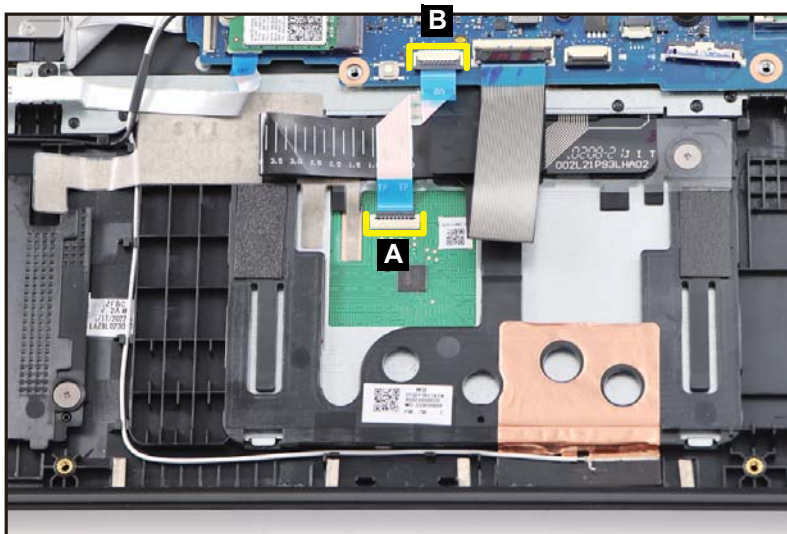

Figure 1-10. Touchpad Module Removal
1. Disconnect one end of the touchpad FFC from the touchpad module connector (A) (Figure 1-10).
2. Disconnect the other end of the touchpad FFC from the mainboard connector (B) (Figure 1-10).